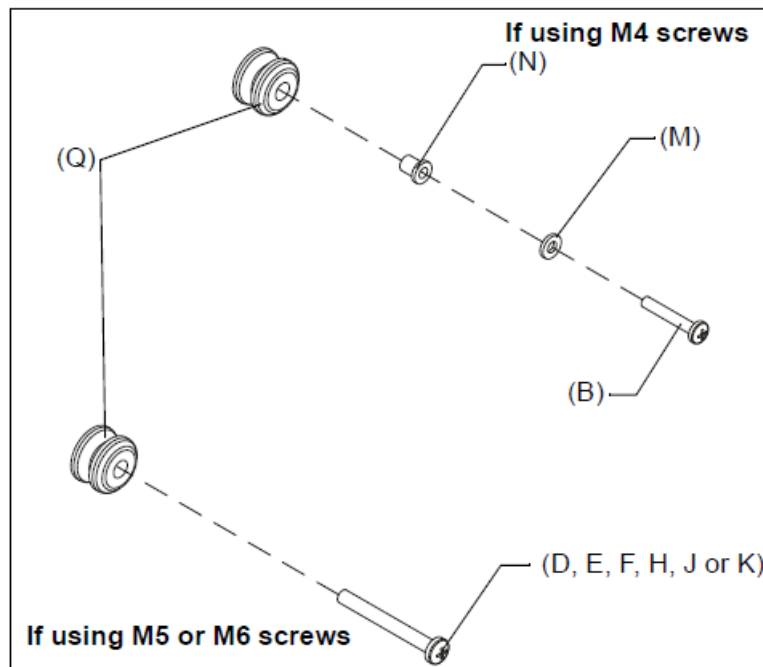

Figure 7
1. If mounting screw is M4, attach four mounting buttons (Q) using four shoulder washers (N), four M4 washers (M) and four M4 screws from Bag A. **(See Figure 7)**
2. If mounting screw is M5 or M6, attach four mounting buttons (Q) using four M5 or M6 screws from Bag B or Bag C. **(See Figure 7)**